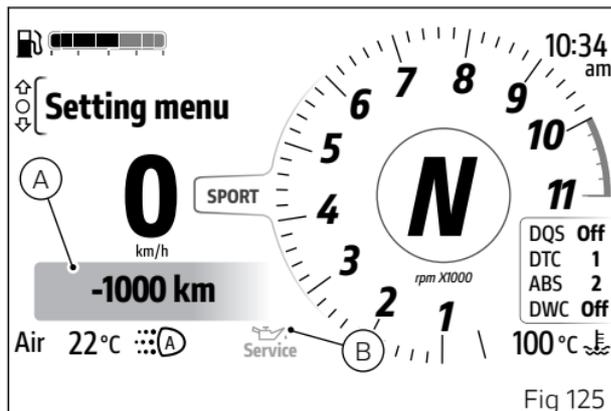

Fig 125
When the thresholds set for service coupons are close, the instrument panel activates the following grey warnings for 5 seconds upon each Key-On, showing the remaining distance or days: for "Oil service" (Fig 125) and "Valve Clearance Check Service" it is activated 1000 km (621 miles) before service is due, for "Annual service" 30 days before service is due.
Once the threshold of the service coupons has been reached and upon every Key-On, the corresponding amber yellow signal is activated in large mode (A, Fig 125) for 5 seconds, then the signal toggles to small mode (B, Fig 125): "Oil service" (C), "Valve Clearance Check Service" (D), "Annual service" (E). Amber yellow service warning is displayed until reset by the Ducati authorised service centre, during maintenance.